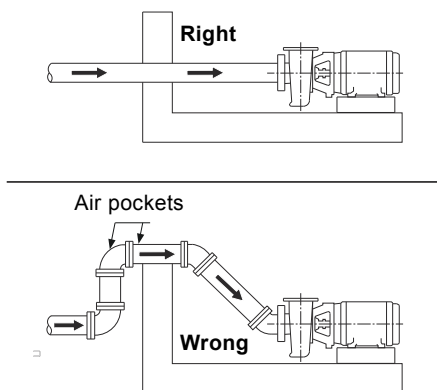

Fig. 4 Air pocket prevention
- Avoid any high points, such as pipe loops fig. 4, that may create air pockets and throttle the system or produce erratic pumping.